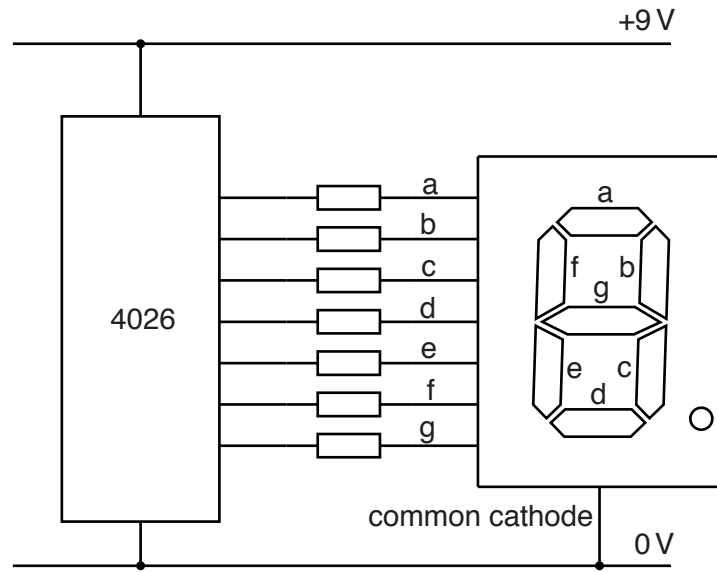

Fig. 18
- (iii) Fig. 18 shows a 4026 CMOS counter IC symbol with each output connected through a resistor to a segment of the display.